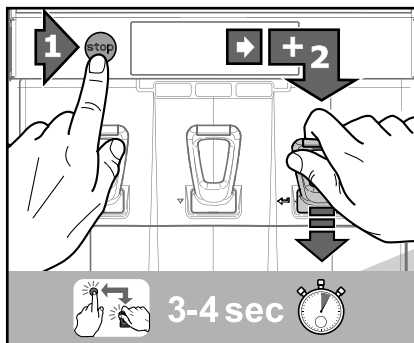

Fig. B2
3. Press first the STOP button and then pull the handle 'ENTER' and hold them simultaneously for 3-4 seconds to enter the cleaning mode (fig. B2).